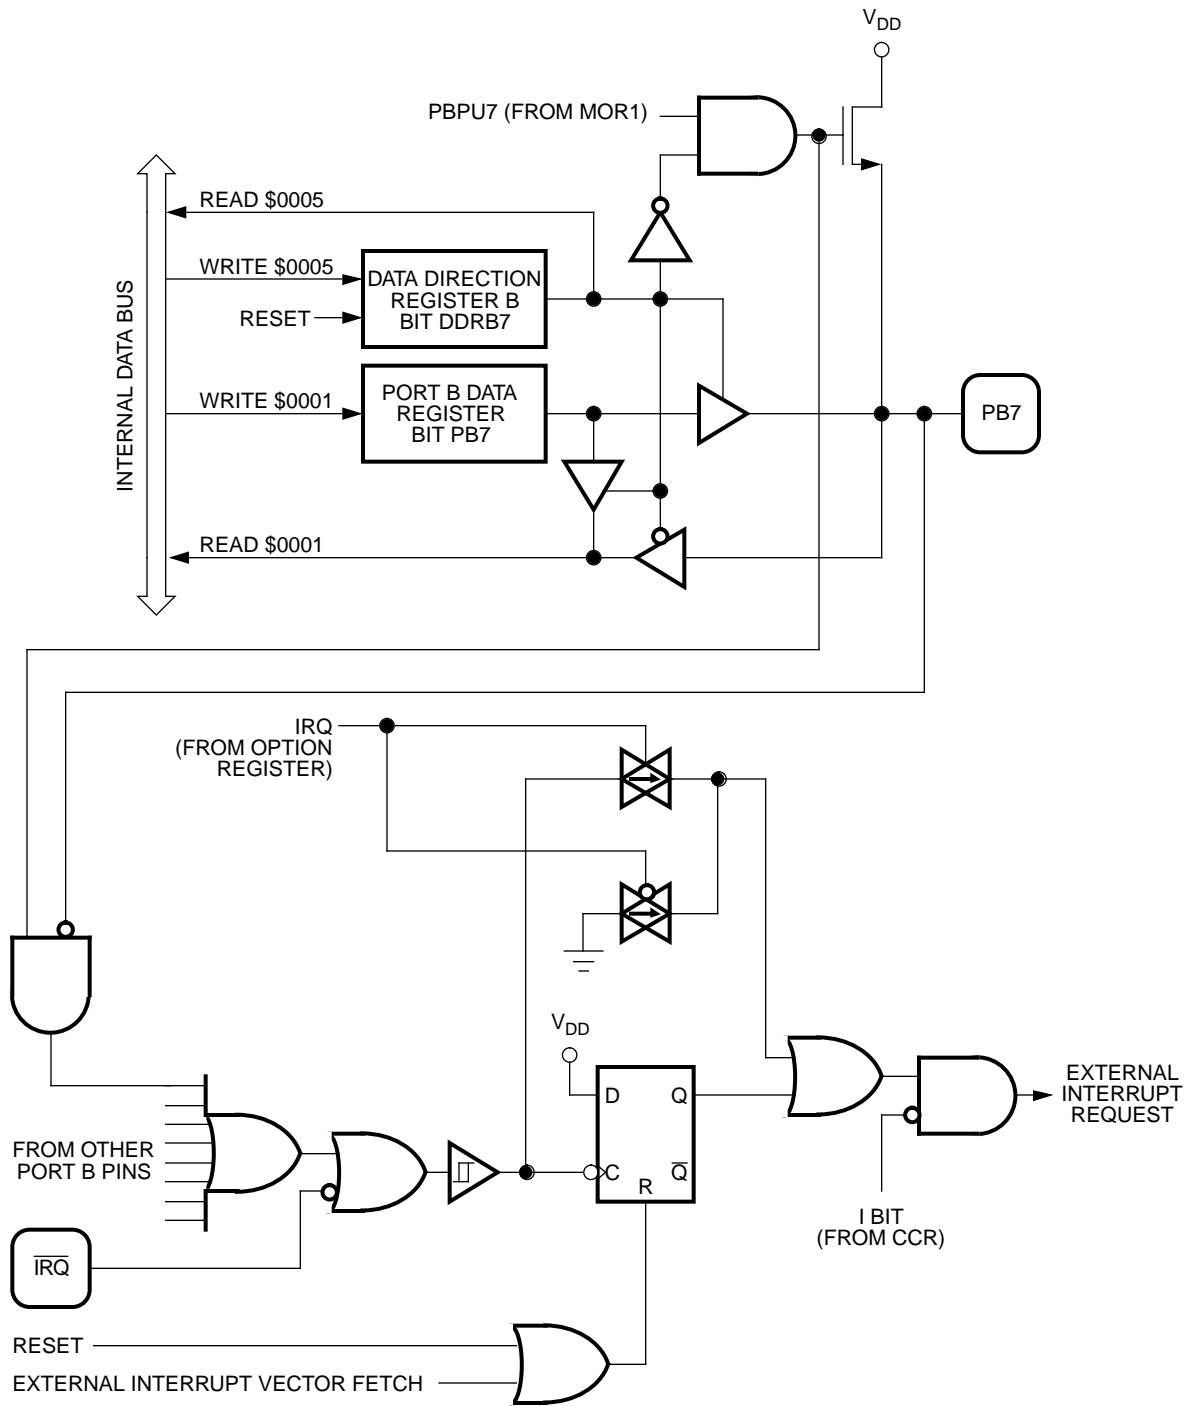

Figure B-4. Port B I/O Logic
- A subsequent port B external interrupt request can be latched only after the voltage level of the previous port B external interrupt signal returns to a logic one and then falls again to a logic zero. Figure B-4 shows the port B I/O logic.